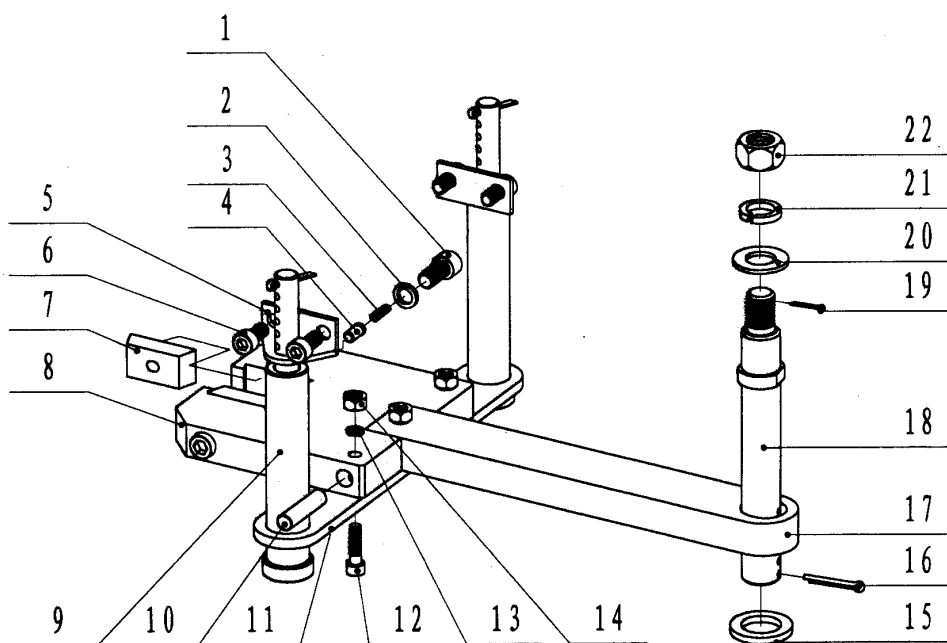

Fig 10
9.3 Backup tong (Fig 10, Table 10)